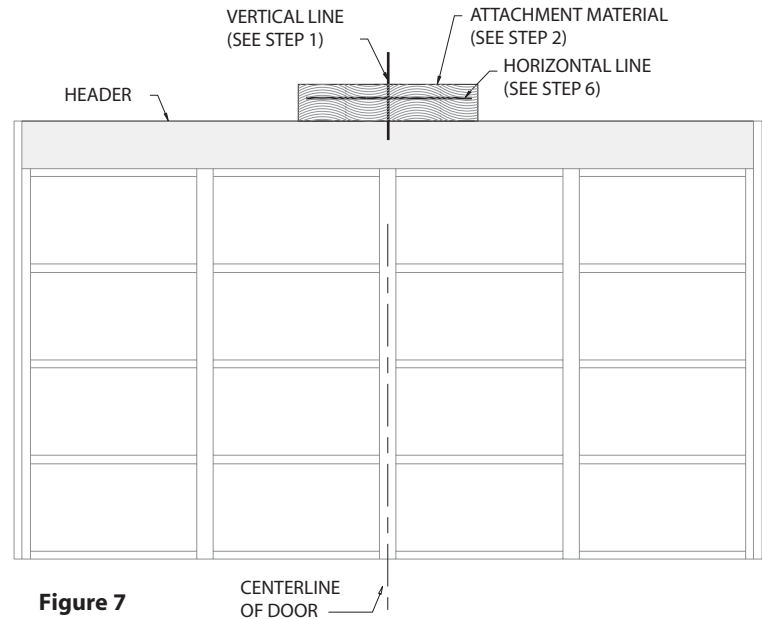

Figure 7
- 1) Measure the width of the door to determine the center. Make a vertical line above the door, as shown in **Fig. 7**. (If the vertical line is not in line with a door stile, a means of attaching the door bracket to the door must be provided. This can be accomplished by spanning the center of the door's top section (between the top and bottom rail) with a suitable material such as wood or steel).
- 2) Prepare for attaching drawbar to header. If woodwork, or other suitable material is not already in place, securely affix a 2" x 6" block of wood or metal plate as shown in **Fig. 7**.